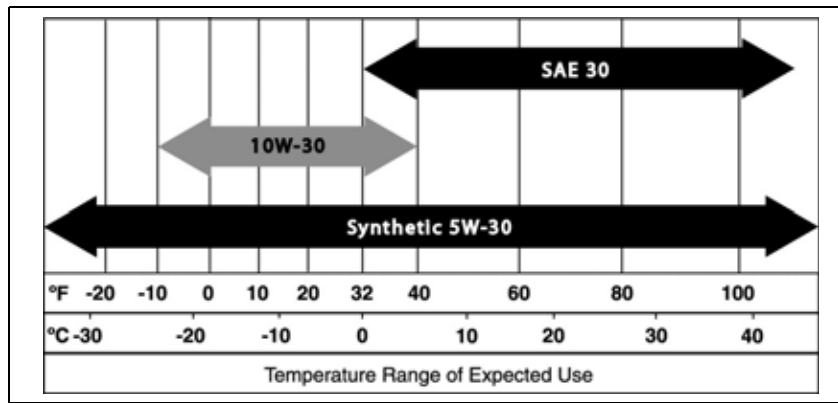

Figure 4-2: Recommended Oil Based on Temperature
8. Refill the engine with the proper recommended oil. For recommended oil, see Figure 4-2.